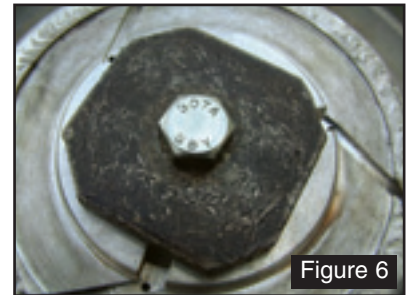

Figure 6
- c. Install a holding fixture to hold the repair plate. (This is important. The repair plate will rise up on the opposite side of the spot weld, if the plate is not held. Do not overtighten.) A $\frac{3}{8}$ " x 2 $\frac{1}{2}$ " bolt and 2 oversized flat washers will work (see Figure 6).